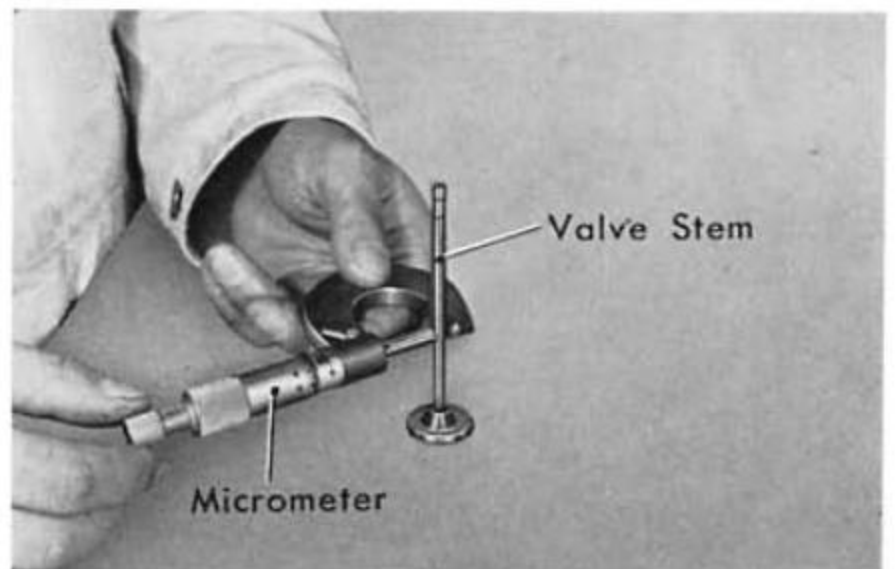

Fig. 1G-19
7. Valve Spring Height and Trueness (Fig. 1G-20)